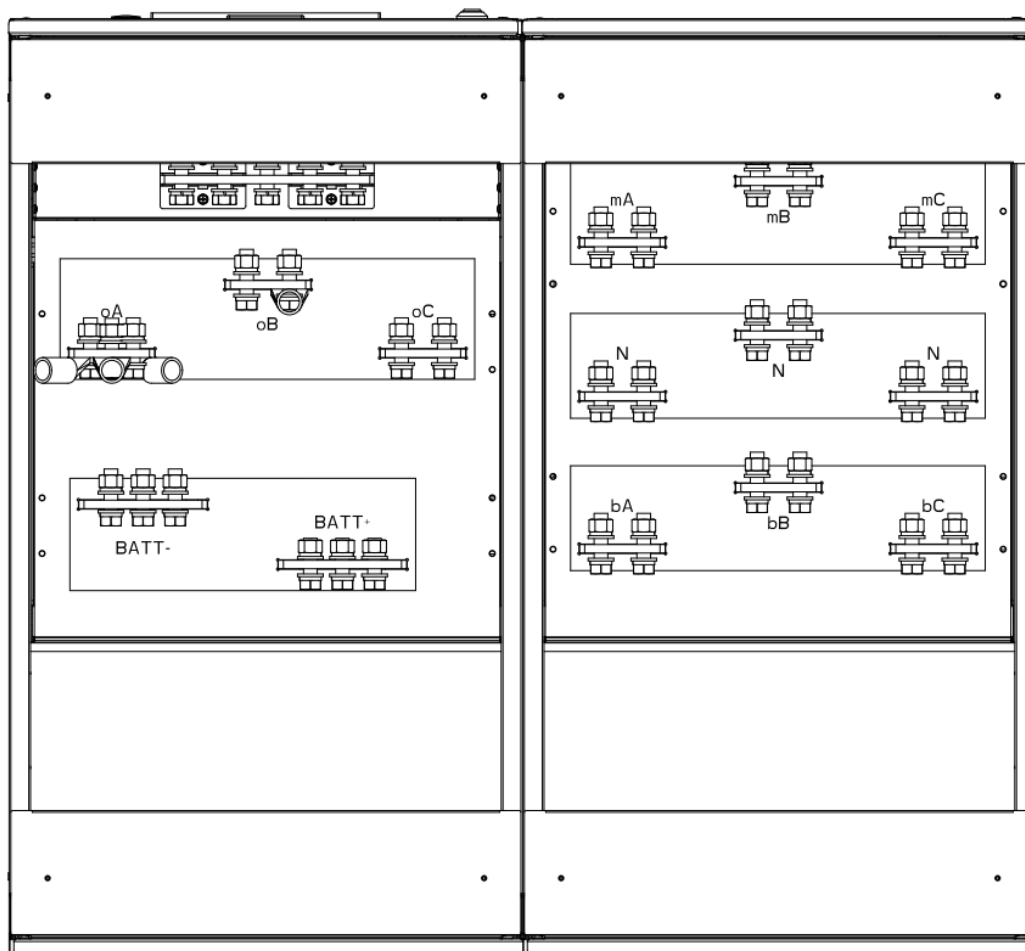

Figure 3-31 Terminal Layout Diagram
Step 2: Remove the protective cover on the top of the cabinet. The input and output terminals, battery terminals, and grounding terminals are visible. The layout of the terminals is shown in Figure 3-31 (Terminal Layout Diagram);
Step 4: According to the terminal layout in Figure 3-31, connect the AC input cable to the UPS input terminals (mA, mB, mC); connect the output load cable to the UPS output terminals (oA, oB, oC);